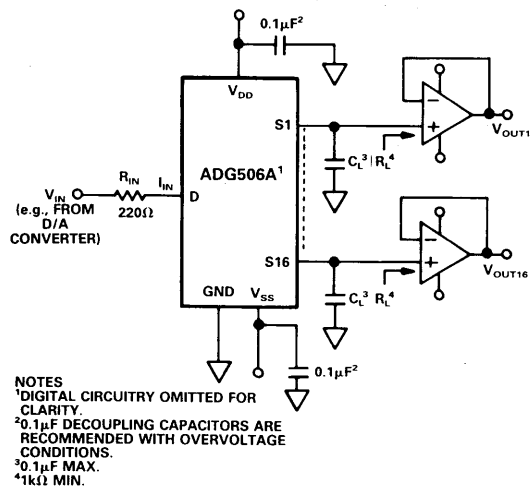

Figure 2. ADG506A De-Multiplexer Circuit
Figure 2 shows a typical de-multiplexer circuit. In this application it is used to provide a 16-channel sample-
The overvoltage protection outlined above uses external current limiting resistors in series with the S (D) inputs of the multiplexer. These resistors could also be incorporated on-board the die of the multiplexer, but this would lead to power dissipation problems and therefore restrict the overvoltage amplitude allowed. Overvoltage protected multiplexers from some manufacturers use on-chip resistors (with the associated power dissipation problem), but these are employed to protect the S inputs only. This means that in the de-multiplexer application shown in Figure 2, an external resistor (R_{IN}) is still required if the source of V_{IN} can supply greater than 65mA. In this instance, on-chip resistors actually cause problems by increasing the settling time of the sample-and-holds. In conclusion, external versus internal protection is preferable for the two reasons outlined above.